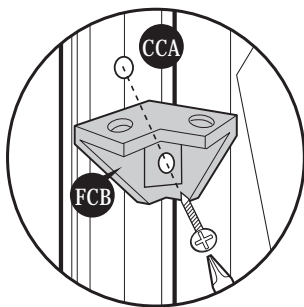

Fig.1: Use (S2) screws. Fix (FCB) fitting to (CCA). Leave it loose.
13. Working from inside Continue connecting the 4 back panels (SP↑) and columns (CMA) in sequence along (B3RA) & (B3LA) base to corner column (CCA). Use (S1) screws to fix columns to base. Slide corner column (CCA) into side panel (SP↑) pushing the column into position. See (fig.1) and (fig.2).
14. Stabilize the side panels with center bands (CB3A) assembly. Fix center band fitting (FCB) to corner column (CCA) with (S2) screws. See Fig. 1 Follow the Fig. 1,2,3,4 & 5.